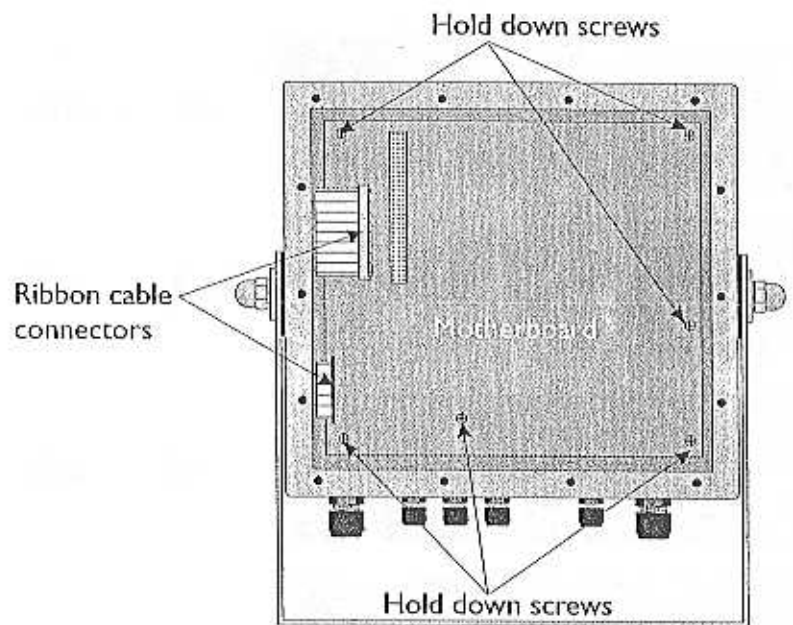

Figure 12
4. If you need to remove the main board, disconnect the two ribbon cables from the main board. Remove the six hold down screws on the pc board, as shown in Figure 12 and pull out the main board. Take care because there is a hidden cable connecting the main board to the display board. Disconnect this